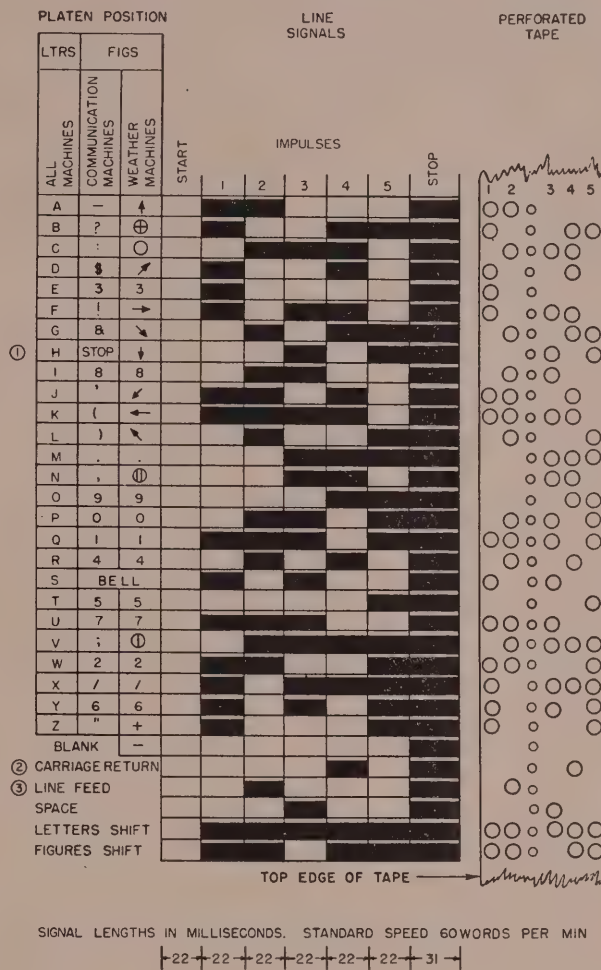

Figure 7. Teletypewriter code.
the receiving apparatus, as a steady impulse is necessary for correct operation of the receiving machine. When sending at 60 wpm (words per minute), assuming a standard five-letter word, the time for each unit signal impulse is 22 ms (milliseconds) (fig. 7). When the
b. The condition pictured on the diagram is that for the transmittal of the letter F. At the sending end of the circuit the positions of the sensing-pin contacts indicate that the perforated tape is punched in positions 1, 3, and 4 and not punched in positions 2 and 5 (fig. 7). This is the code for the letter F and is the same code that a depressed F keyboard key would make. As the brush arm makes its revolution, the sending relay will be inoperative during the start, 2, and 5 segments and operative during the 1, 3, 4, and stop segments. The shaded segments receive battery supply via the sending magnet and closed sensing-pin contacts, resulting in *mark* pulses over the line. The unshaded segments do not receive battery supply; this results in *space* pulses over the line. Mark pulses are current pulses; space pulses are noncurrent pulses.
Instead of transmitting from a teletypewriter keyboard, it is frequently of advantage to transmit automatically by means of perforated tape. (Portions of this tape are shown in the right side of figure 7 and in figure 10.) With this type of transmission, one or more operators may perforate tape as fast as it is convenient, and the previously prepared tape may be hand-fed through the automatic transmitter at a uniform rate, making use of the maximum speed capabilities of the circuits. The machine used for automatically transmitting from perforated tape is called a *transmitter-distributor*, normally abbreviated TD. In the TD, a tape transmitter using the perforated tape sets up the code combinations to be transmitted on a set of five contacts. A commutator distributor (which corresponds to a distributor in an automobile) connects the line of each of these contacts in proper sequence at a speed of 60 wpm. The signals are transferred to the line through a distributor brush revolving around a commutator face which is split into seven segments. The brush first passes over the start segment, sending a space impulse over the line. As it continues to revolve, it successively connects the five code segments to the line for a character. Then the brush reaches the stop segment and sends out the stop impulse, a mark. Thus, one character is sent per revolution of the commutator brush. The output signals of a
The TD can handle both the chad and chadless types of tape. Chad tape (right side of fig. 7) is produced by a perforator with a standard teletypewriter keyboard. When a key is depressed, the desired code combination is recorded on the tape by perforating for the mark impulses and by not perforating for the space impulses. The start and stop impulses are not recorded on either type of tape. The small continuous line of holes in the tape (both chad and chadless types) are used to feed the tape through the perforator and the TD. The tape is read by moving it from right to left with two recorded impulses above the feed line and three below the feed line. The perforating mechanism consists essentially of a set of punches for perforating tape, a pair of punch magnets, and a punch hammer for operating the punches. Depressing a key positions six selector bars, five of which, through a series of lever actions, select the punches that are to be operated. The sixth selector bar closes the electrical circuit through the punch magnet, resulting in the punches being operated by the punch hammer. This type of perforator punches the tape clean.